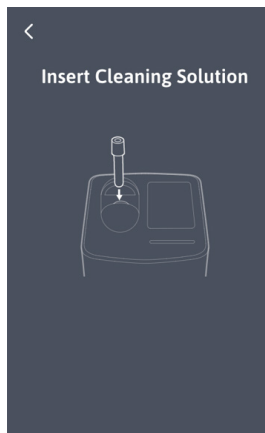

Figure 39
2. Once prompted by the screen (Figure 39), insert either the deepCLEAN tube or the manually prepared tube of 6-7% sodium hypochlorite solution into the sample loading position to start the automated process.